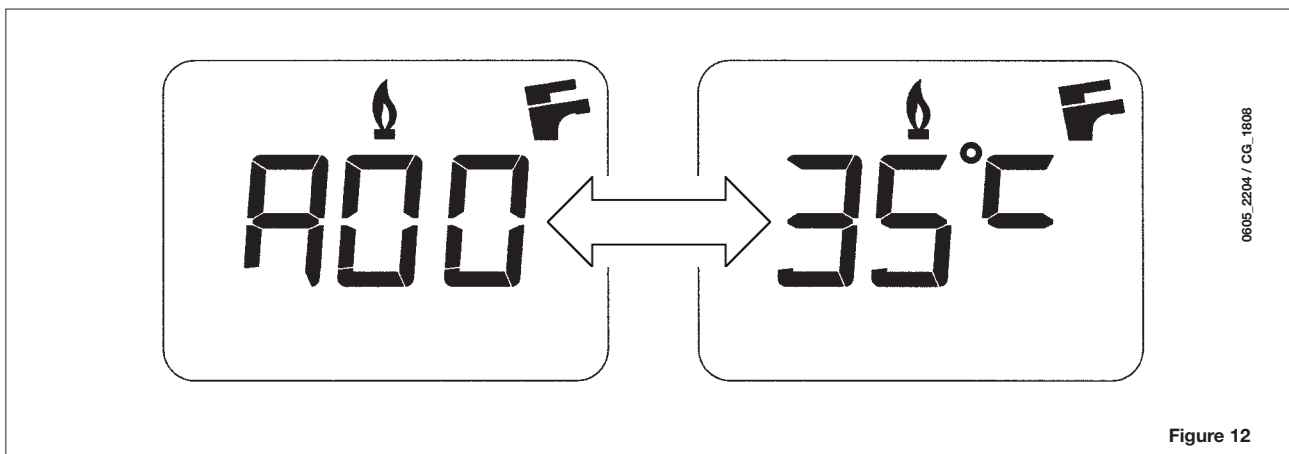

Figure 12
N.B.: when the "INFO" function is enabled, the message "A00", alternating with the boiler delivery temperature, is shown on the display (figure 12):